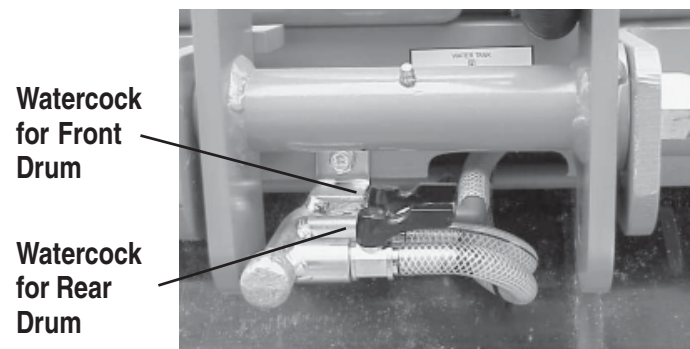

Figure 25. Water Cocks
1. For watering work, turn the water cocks clockwise, at the rear of the machine, to start sprinkling. (Figure 25).